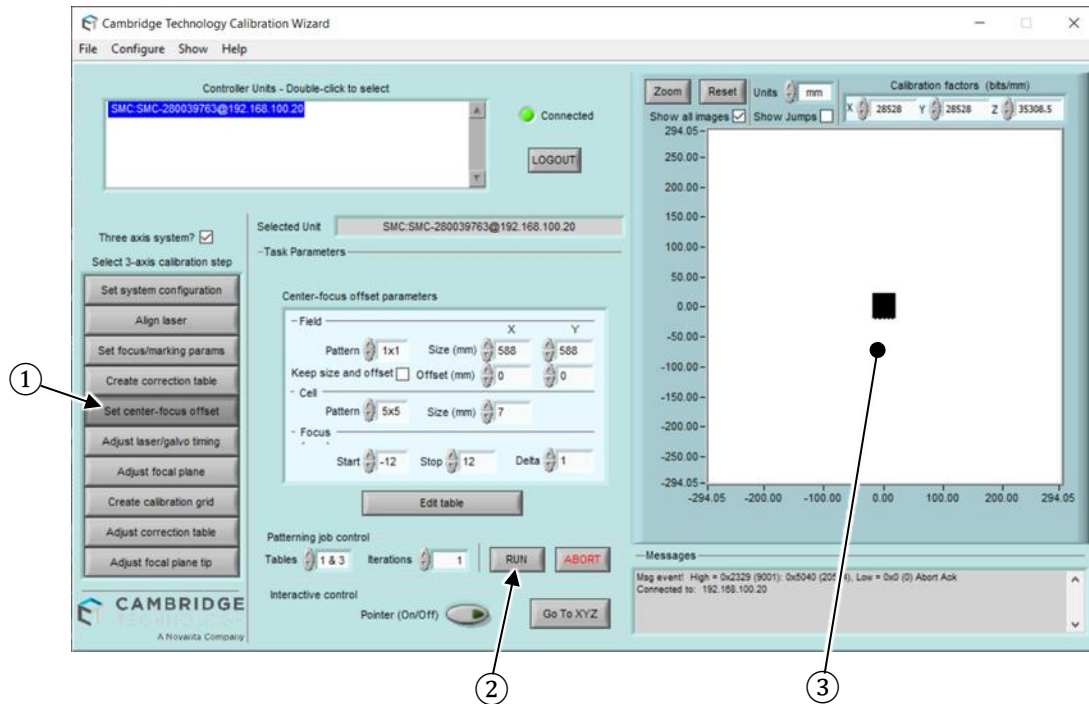

Figure 24: Scanning the center focus pattern
The *Calibration Wizard* window is open now; see Figure 24 on page 67.
9. Referring to Figure 24 on page 67, this is achieved by taking the following steps: